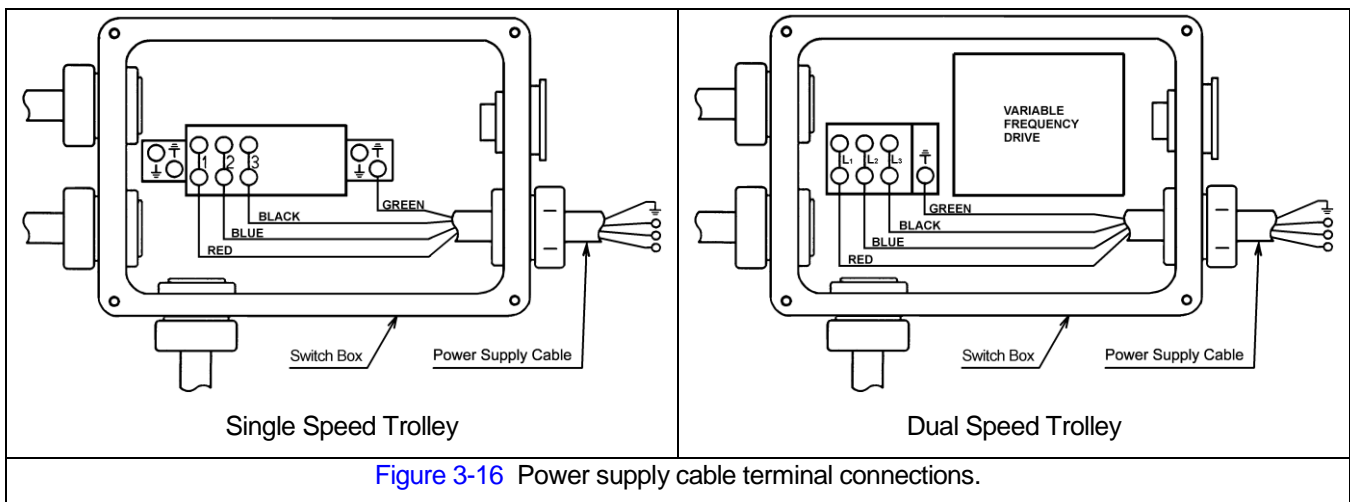

Figure 3-16 Power supply cable terminal connections.
- 3) Refer to Figure 3-16 and connect the red, blue and black wires to terminals 1, 2, and 3 on the terminal strip inside the Switch Box. Connect the ground wire (green with yellow stripe or solid green) to the ground terminal next to the terminal strip.